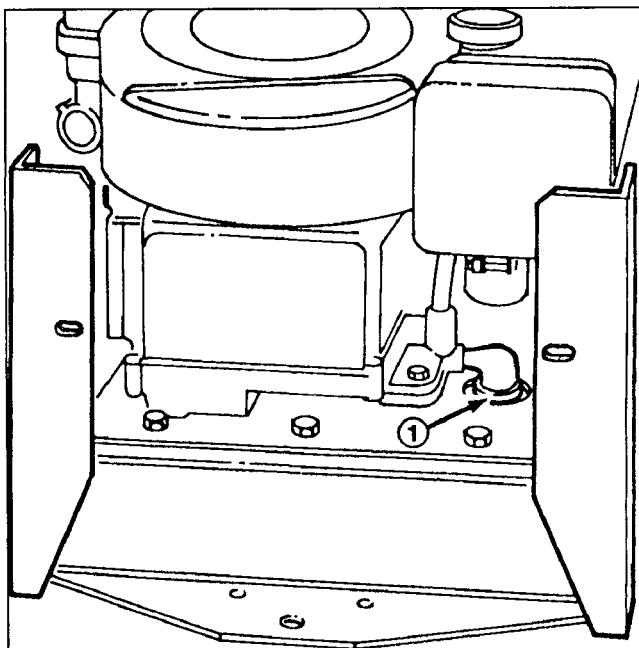

Figure 15
B. Turn engine off and place drain pan below drain plug (Fig. 15). Remove drain plug, and allow all oil to flow into drain pan. Reinstall drain plug after oil stops flowing.